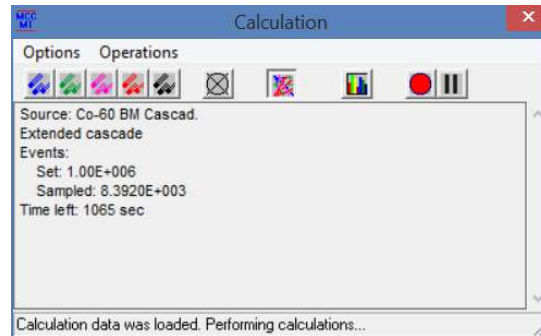

Figure 53.17
7.13 In the toolbar of the window **Calculation** click the button  or select the menu item **Operations->Start/Stop Calculations**. The calculation process will begin indication in the working field of the window **Calculation** (see Figure 53.17).